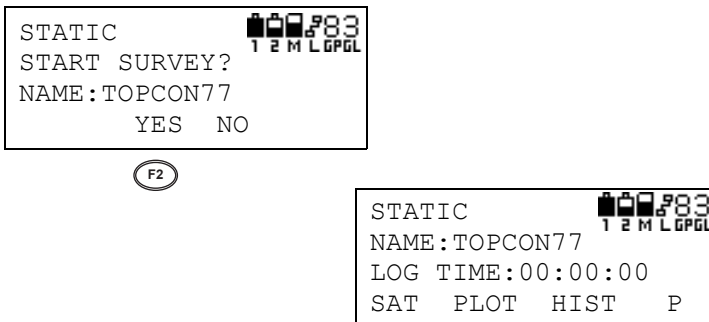

Figure 3-29. Press F2 to Begin Observation
10. Press **F2** (YES). Observation will begin (Figure 3-29).